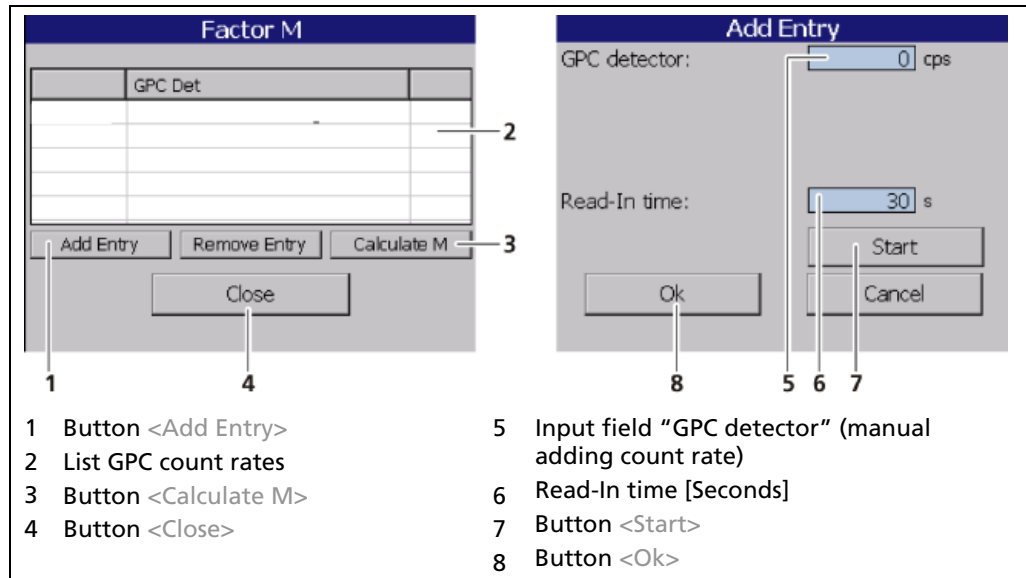

Fig. 82 GPC calibration: calculate Factor M
If it is not possible to capture the count rates, the values may be entered manually into the input field (Fig. 82, item 5).
1. Click on the <Add Entry> button (Fig. 82, item 1) to add a new point.
2. Enter a count rate value into the input field (Fig. 82, item 5).
3. Click on the input field "Read-In time" (Fig. 82, item 6) and enter a measurement time. Confirm with the Enter key.
4. Click on the button <Start> (Fig. 82, item 7). Make sure that the vessel is empty.
6. Click the button <Calculate M> (Fig. 82, item 3) to determine Factor M from the count rate.